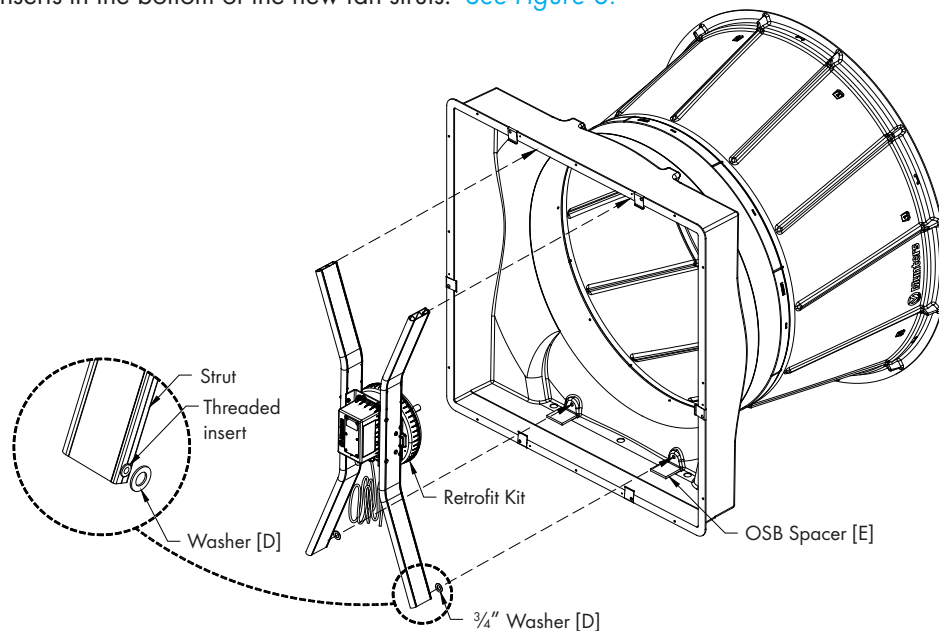

Figure 8
Place the (2) OSB Spacers [E] in the bottom of the fan with (1) spacer in front of each of the mounting holes for the struts. Remove any debris necessary so the spacers [E] lay flat. Set the new Munters Drive Retrofit Kit into the fan with the bottom of the struts sitting on the (2) OSB Spacers [E]. Place (2) $\frac{3}{4}$ " Washers [D] over the threaded inserts in the bottom of the new fan struts. See Figure 8.